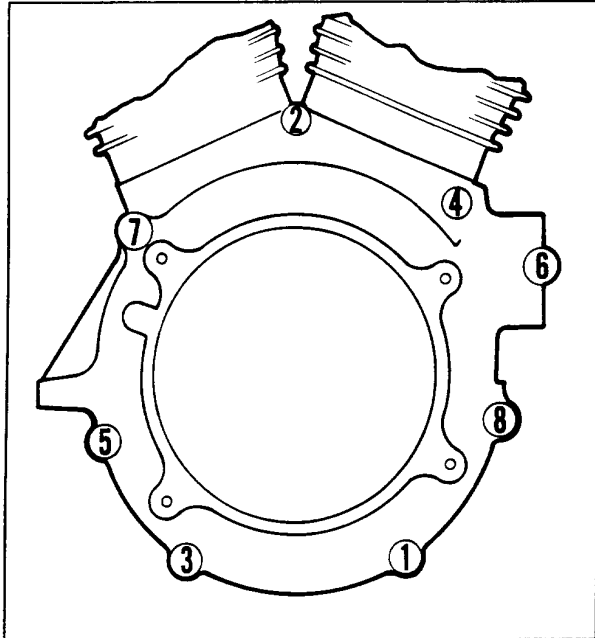

Figure 5. Crankcase Torque Sequence
1. See Figure 5. Tighten crankcase fasteners to 10 ft-lbs torque in the sequence shown.
3. See Figure 5. Tighten crankcase fasteners to 15 - 17 ft-lbs torque in the sequence shown.
See Figure 5. On some models, the horn bracket is secured by stud (2) on the left crankcase half. To install the horn bracket loosen the left nut on stud (2), install the bracket and tighten stud (2) to 15 - 17 ft-lbs torque.